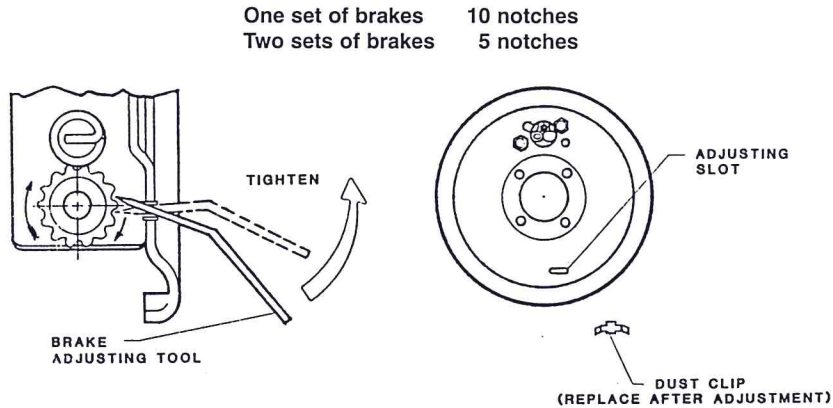

FIGURE 12 ADJUSTING BRAKES
4. Check coupler mechanism for smooth operation. If button is hard to push or latch handle does not spring open after being disengaged, lubricate points on coupler latch mechanism indicated by arrows in Figure 12. (A-60 only)